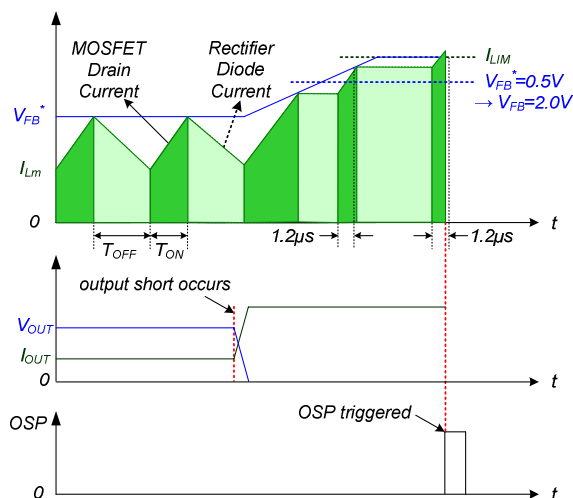

Figure 22. Output-Short Protection
4.3. Output-Short Protection (OSP): If the output is shorted, steep current with extremely high di/dt can flow through the SenseFET during the minimum turn-on time. Such a steep current brings high-voltage stress on the drain of the SenseFET when turned off. To protect the device from this abnormal condition, OSP is included. It is comprised of detecting V_{FB} and SenseFET turn-on time. When the V_{FB} is higher than 2V and the SenseFET turn-on time is lower than 1.2 μ s, the FSGM0565RB recognizes this condition as an abnormal error and shuts down PWM switching until V_{CC} reaches V_{START} again. An abnormal condition output short is shown in Figure 22.